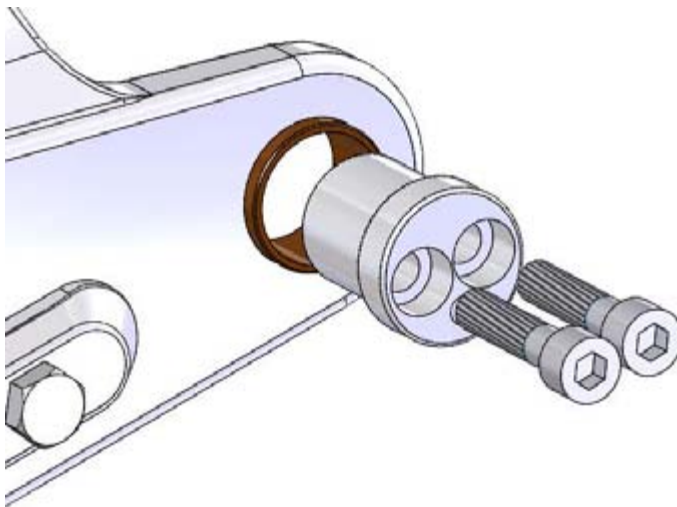

Figure 56. Attaching the joint pins
3. Tighten the fastening screws (2 on each side) (figure 56).